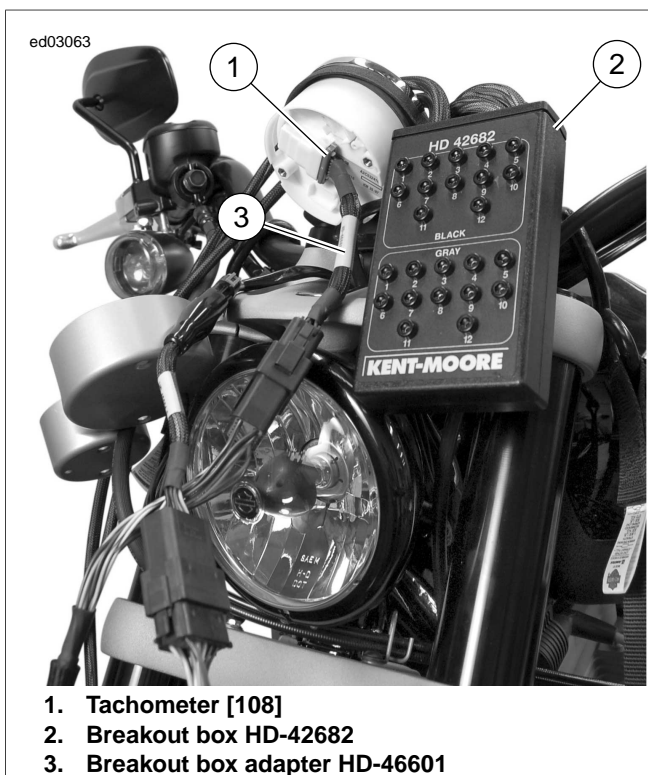

Figure 1-25. Breakout Box Connection (XR)
1. Access the speedometer [39] (XR) and tachometer [108] (XL).
2. See Figure 1-25. Press latch and disconnect speedometer [39B] (XR) or tachometer [108B] (XL).
3. Connect BREAKOUT BOX ADAPTERS (Part No. HD-46601) to [39A] and [39B] (XR) or [108A] and [108B] (XL).